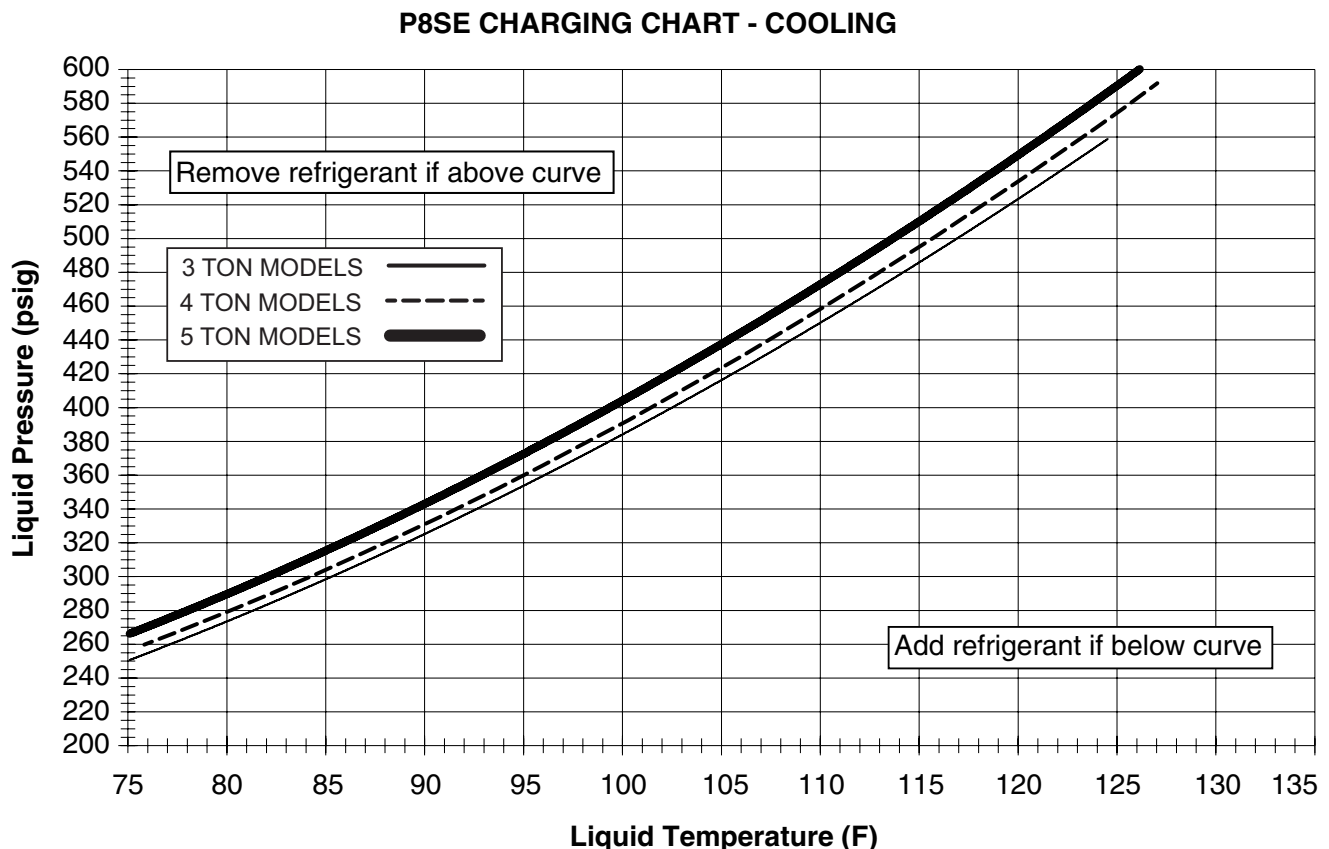

Figure 7. Charging Chart for 3, 4, & 5 Ton Units
- The refrigerant charging chart (Figure 7) is applicable to listed assemblies of equipment and at listed airflow for the indoor coil. Assemblies of indoor coils and outdoor units not listed are not recommended.
3. For the temperature measured, determine the required liquid refrigerant pressure from the charging chart (Figure 7).